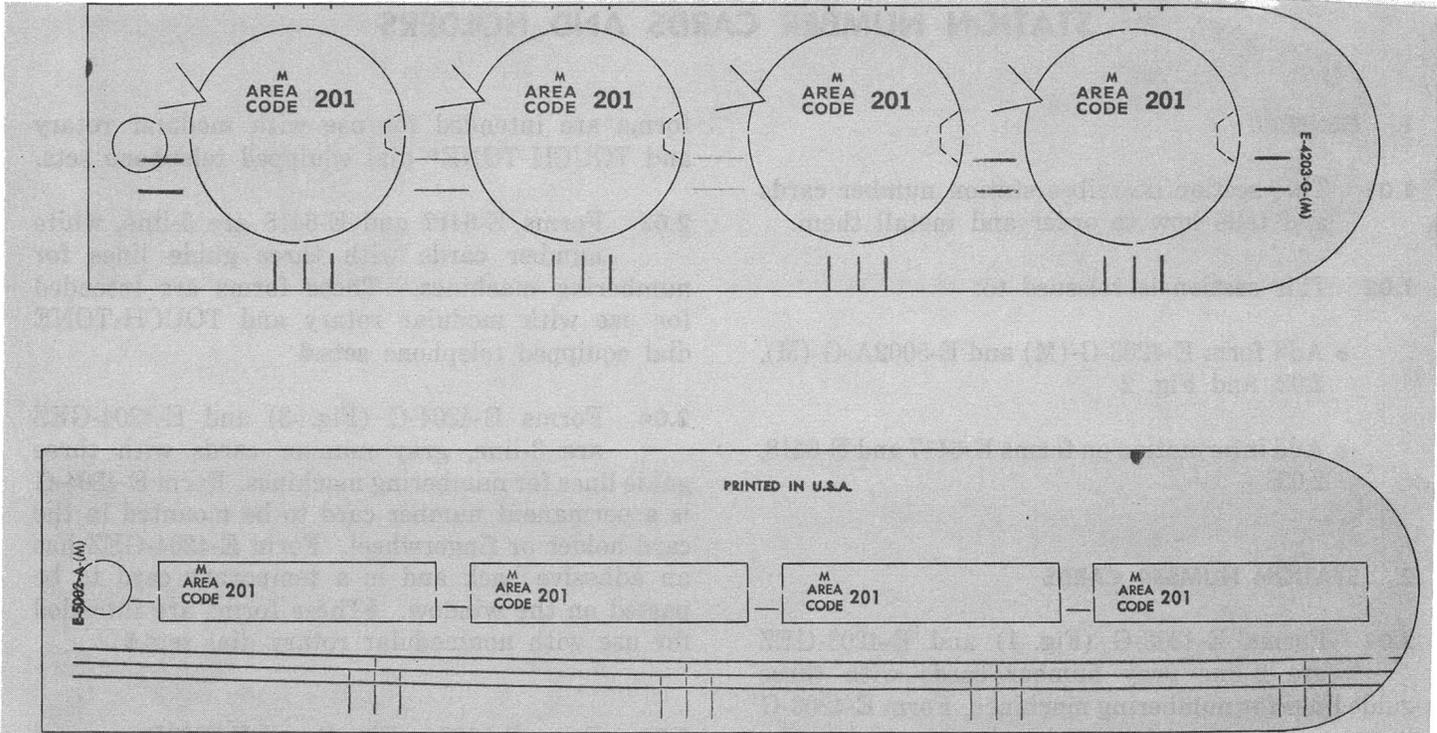

Fig. 2—▶Form E-4203-G-(M) and Form E-5002A-G-(M) (Quantity of Four)◀
- Add form E-4203-G-(M) and E-5002A-G-(M), 2.02, and Fig. 2
2.02 ♦Forms E-4203-G-(M) and E-5002A-G-(M), Fig. 2, are 3-line, gray number cards with three guide lines for numbering machines. These